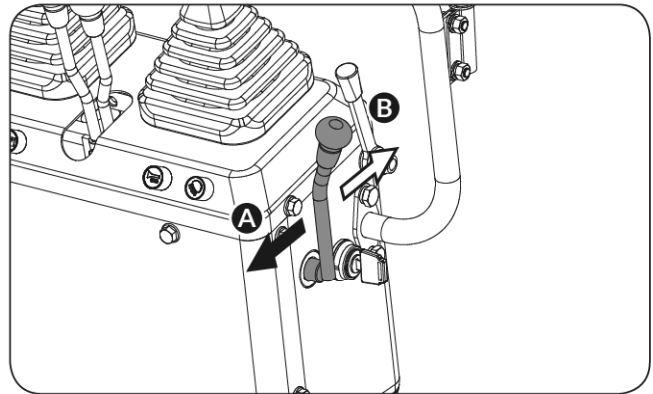

Figure 45
1. To lift the dozer, pull control lever for dozer backward. Push the control lever forward to lower the dozer. (See **Figure 45 & 46**)